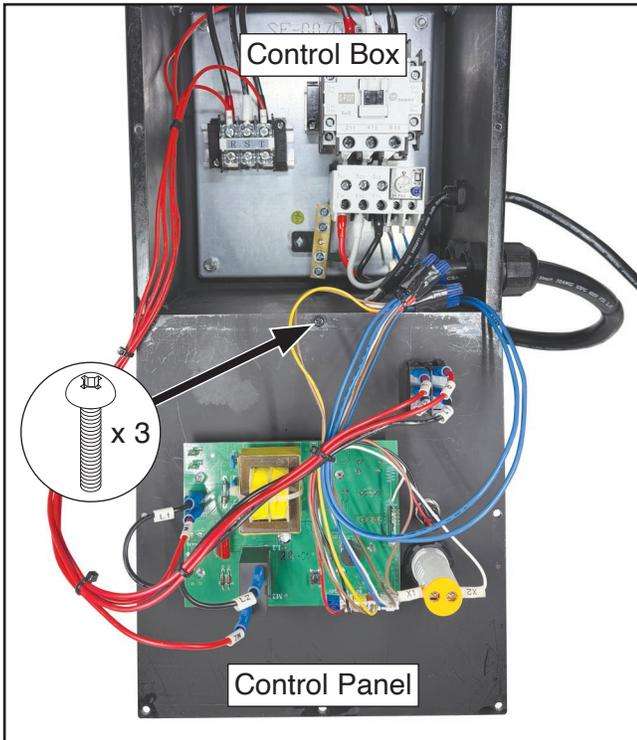

Figure 61. Control panel secured to control box.
3. Lower and tilt control panel so wiring is facing you, then secure panel to control box with (3) fasteners removed in **Step 2** (see **Figure 61**).